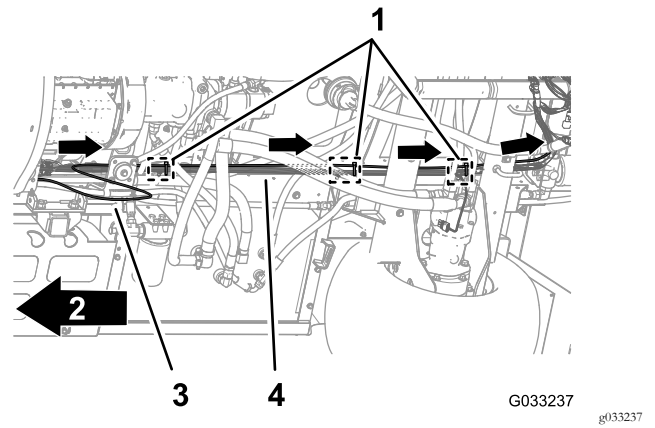

Figure 121
1. Route the pressure-sense tube for the dash gauge along the rear wire harness of the machine (Figure 121).
2. Secure the pressure-sense tube to the rear wire harness with 3 cable ties adjacent to the 3 fir-tree anchors at the chassis anchor points for the rear wire harness (Figure 121).